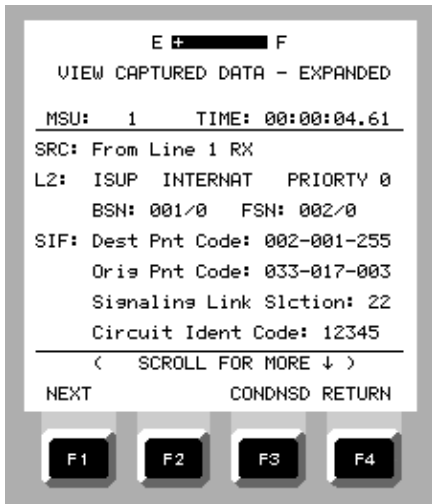

Figure 2-135. VIEW CAPTURED DATA - EXPANDED Screen
11. On the VIEW CAPTURED DATA - CONDENSED screen, move the cursor to any message and press F3 (EXPAND) to change the screen to the VIEW CAPTURED DATA - EXPANDED screen (Figures 2-135, 2-136) or F4 (RETURN) to return to the filter summary screen.